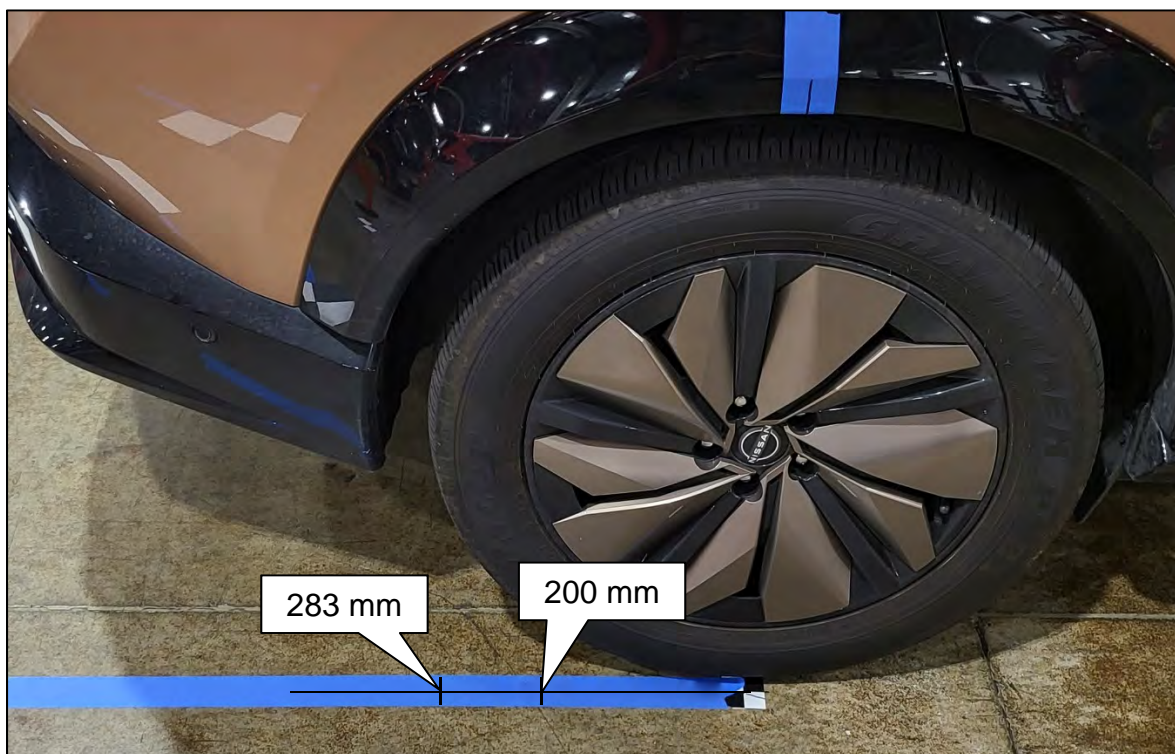

Figure 95
65. Measure 200 mm and 283 mm from the center point of the passenger (RH) side rear wheel, and then make a mark at each measurement, as shown in Figure 95.